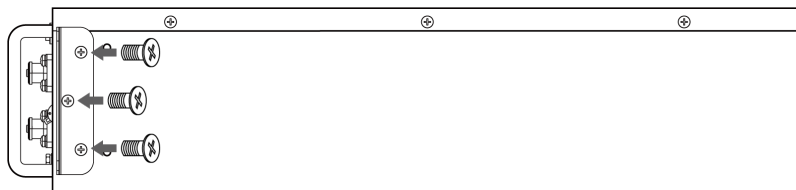

Figure 4-2
- f) Use the 6 screws of M4\*8 to fix the mounting lugs to both sides battery, as show in Figure 4-2.